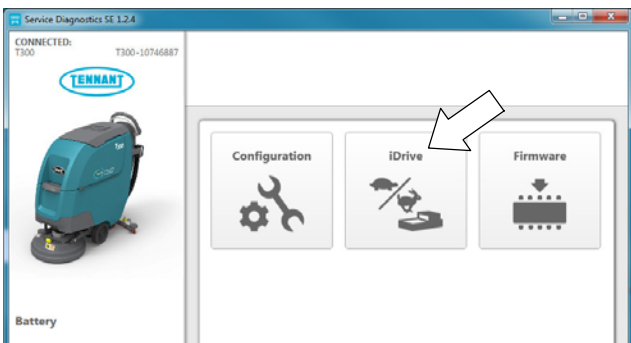

Fig. 6
7. Click the "iDrive" button to enter the programming screen (Figure 6).